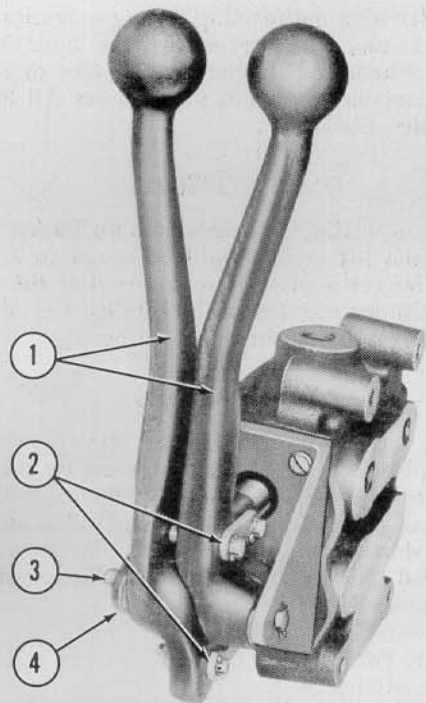

Figure 12
- b. Attach the control levers (1), Figure 12, to the valve spools with the linkage (2). Make sure that the levers are positioned as shown in Figure 12, then insert the pivot pin (3) through the control mounting bracket (4) and the control levers. Secure with the cotter pins provided.